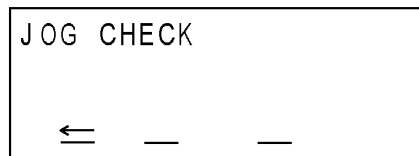

Fig. 31
- (6) The arrow sign (← or →) moves synchronizing with the rotating direction of the jog dial. Press the "Set" key (the central button of the jog dial) when the arrow sign reaches the left by 3 points. (just above the first cursor at the left end) in the left mode as shown in Fig.31.